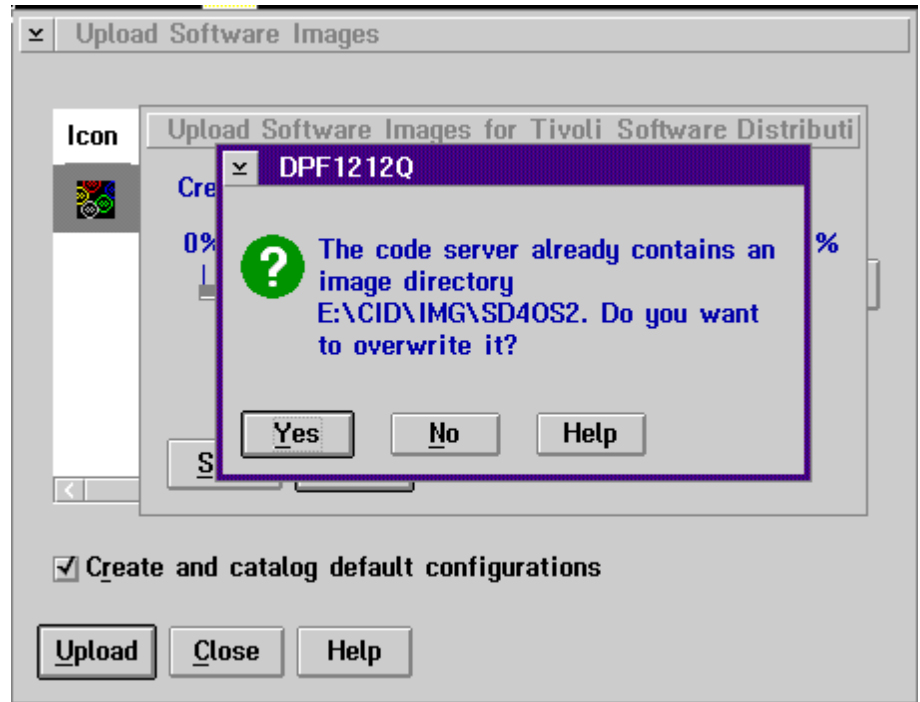

Figure 154. Upload software images overwrite message window
- 5 A message is displayed asking you if you want to overwrite the image directory on the server. Click on **Yes** to upgrade the code images on the code server to the CSD level, as shown in Figure 154 on page 229.